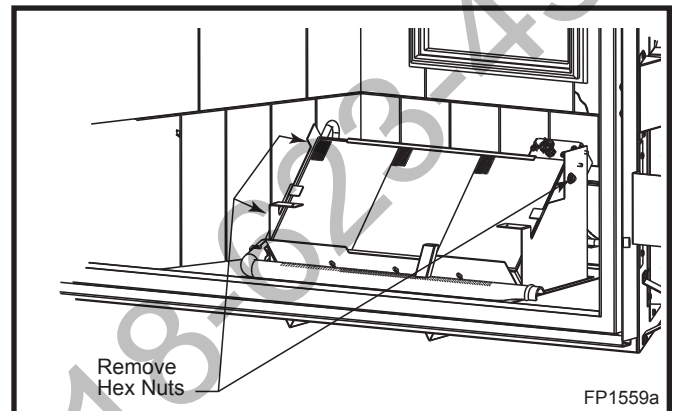

Fig. 55 Use 3/8" socket to remove hex nuts holding left burner leg.
4. Using a 3/8" hex, remove two (2) hex nuts holding the left burner leg and remove the two (2) hex nut that tie the burner housing to the right and left burner leg. Remove burner leg. (Fig. 55)
Typically, the top 3/8" or 1/2" of the pilot flame sensor should be engulfed in the pilot flame. (Page 33, Fig. 55)